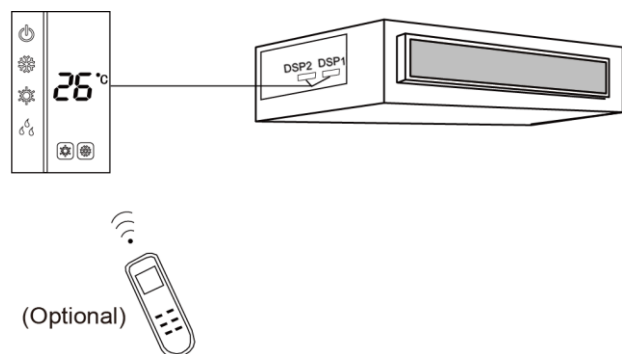

Fig 5.4.2
2) Fig 5.4.2 shows the installation of remote controller.